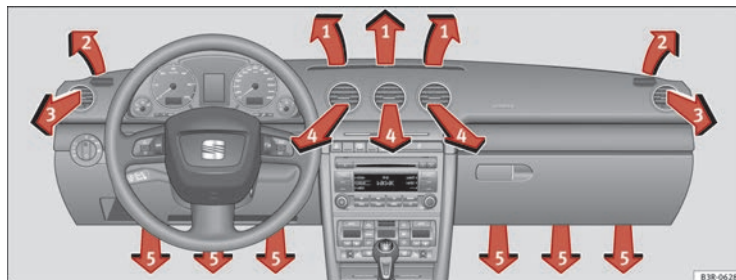

Fig. 130 Dash panel: Location of air outlets
The air outlets ⇒ Fig. 130 ③ and ④ can be operated as follows:
Each of the three buttons has a specific function. The numbers relate to the air outlets ⇒ Fig. 130. ▶
After the ignition is switched off, the blower is supplied with electrical power from the sunroof. Please ensure that outlets 3 and 4 are open ⇒ Fig. 130 to ensure the best possible ventilation.